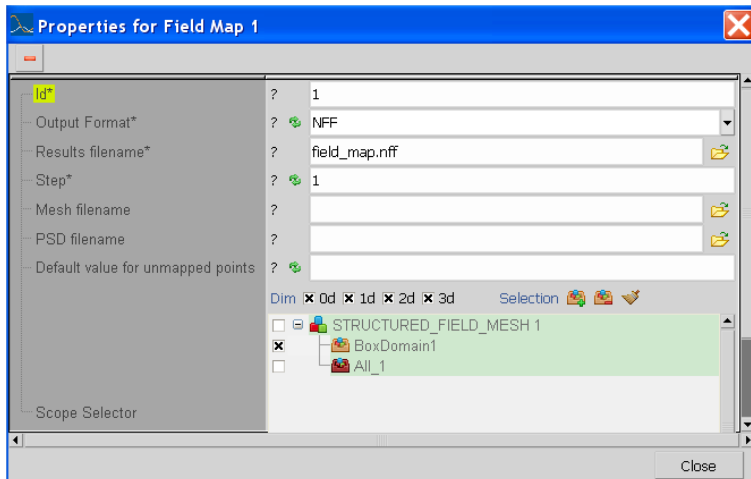

Figure 10.81: Output field map request
- Field Map: defines the output parameters for field map results, as shown in Figure 10.81. Refer to Section 6.3.10 in this User's Guide and to ACTRAN User's Guide Section 10.9 of Volume 2, 10.5 of Volume 2 for more information.